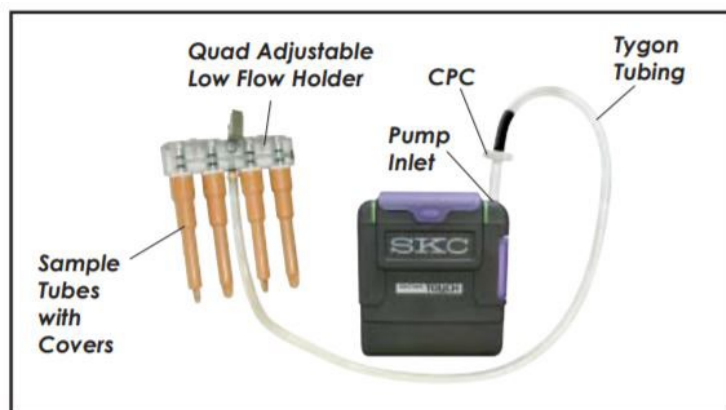

Figure 1. Multiple-tube sampling train with AirChek TOUCH
2. Setting Up the Flow Rate Verification Train with Adjustable Multiple-tube Low Flow Holder — Figure 1